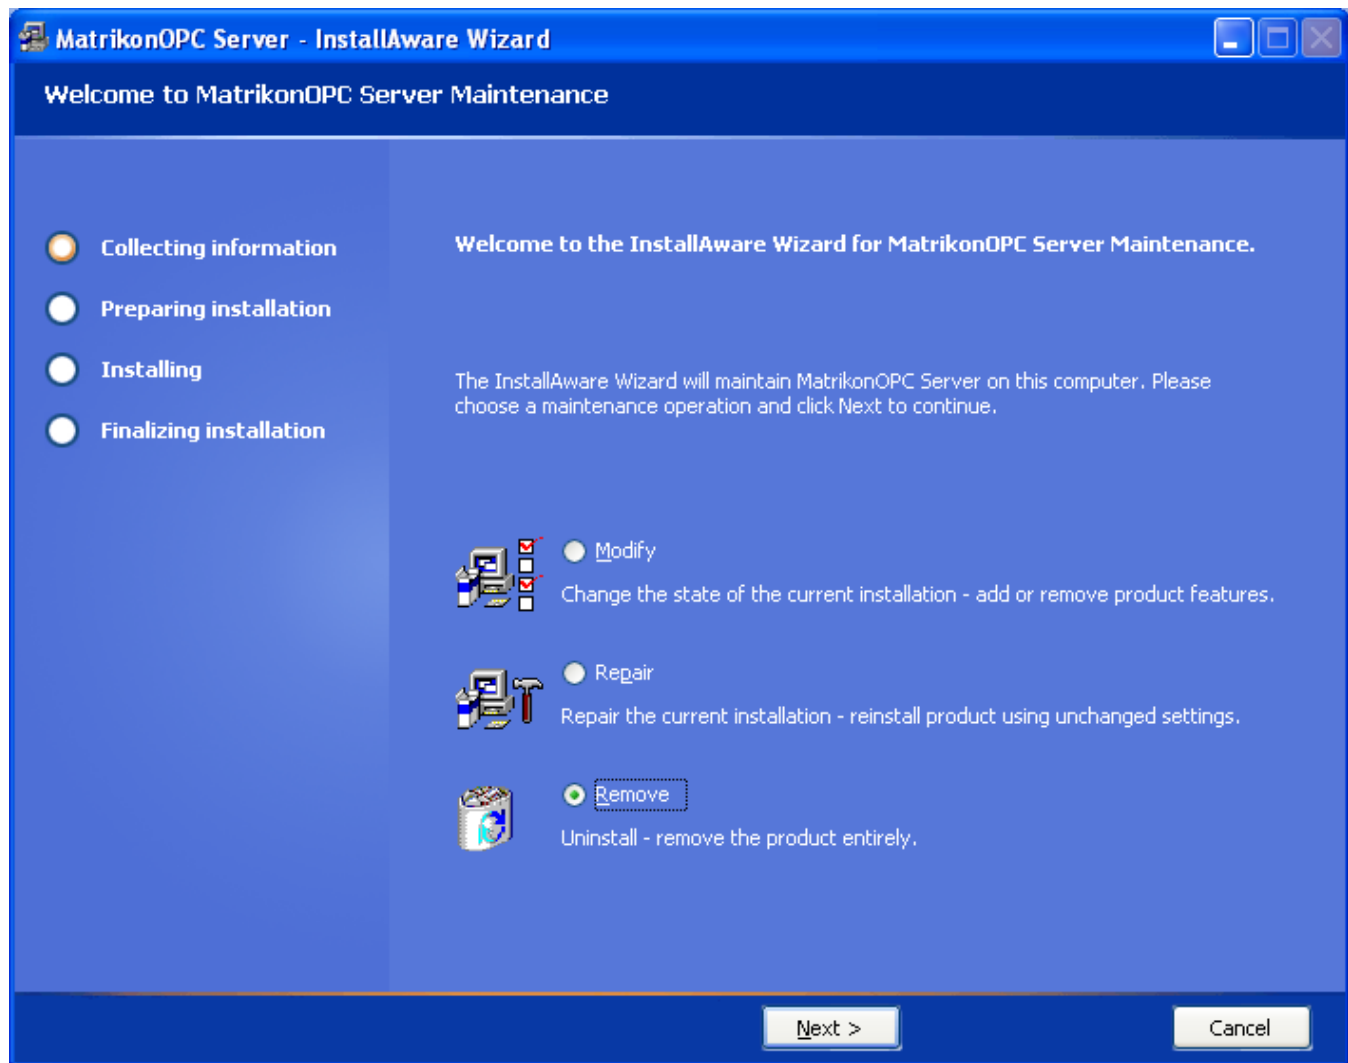

Figure 74 - Welcome to MatrikonOPC Server for Vestas Maintenance Screen
6. The **MatrikonOPC Server for Vestas – InstallAware Wizard** appears, and the **Welcome to MatrikonOPC Server for Vestas Maintenance** screen (Figure 74) is displayed.